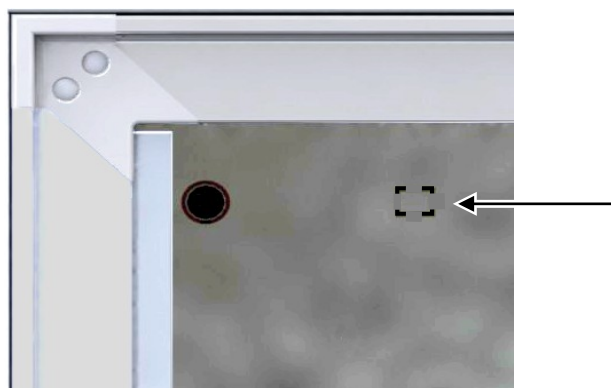

Figure 17: Inner chamber UF V with pre-punched access port
- Break out the pre-punched rectangle in the inner chamber (Figure 17) with suitable pliers